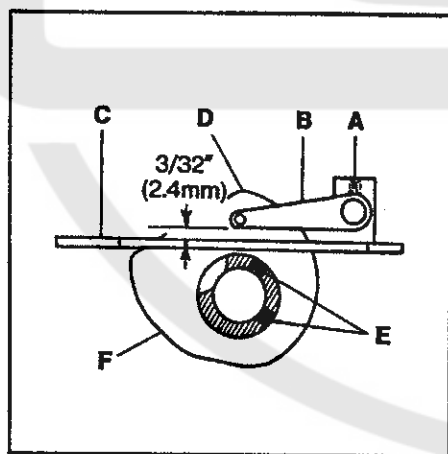

FIG. 34
Loosen screw (A, Fig. 34) and set the lower edge of cover thread take-up eyelet (B) so its  $3/32"$  (2.4mm) above the surface of cast-off plate (C). Tighten screw (A). As the cover thread hook moves to the left over the cover thread and the needle bar starts to rise, the cover thread must "cast-off" from the high point of take-up (D). Loosen screws (E) and adjust take-up (F) accordingly. make sure that take-up (F) is centered in cast-off plate slot (C) and take-up eyelet (B) is centered to take-up (F). Tighten screws (E).